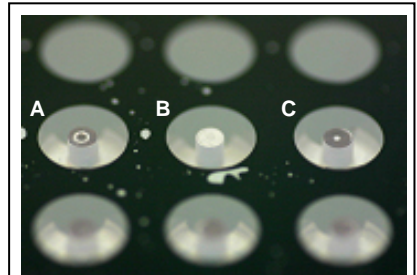

Figure 2. Stoppers that are:
3. Visually inspect the underside of the populated 96-well plate to ensure that the Oris™ Cell Seeding Stoppers are firmly sealed against the bottom of the plate. To inspect the stoppers, turn the plate over and examine the stoppers for sealing (see Figure 2). If incomplete sealing is observed, return the plate to the upright position and use a sterile instrument to gently push the stopper back into the well until sealing is observed.